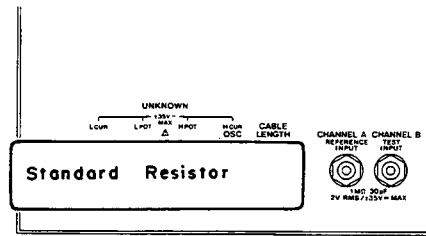

Figure 4-5. Frequency/Phase Accuracy Test Setup
- b. Connect the 0Ω standard resistor directly to the 4192A's UNKNOWN terminals as shown in Figure 4-5.
- d. Connect the 10Ω standard resistor directly to the UNKNOWN terminals as shown in Figure 4-5.